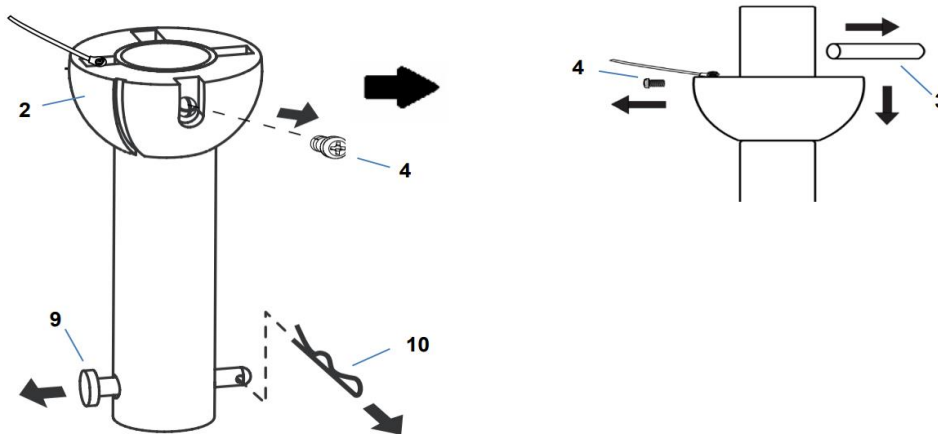

Fig. 6.1
1. Remove the ball joint (2) and dowel pin (3) by loosening the set screws (4) from the down rod (6). Remove the hitch pin (9) by removing the lock clip (10). **NOTE: Do not discard keep these parts, they are required to reassemble later. (Fig. 6.1)**